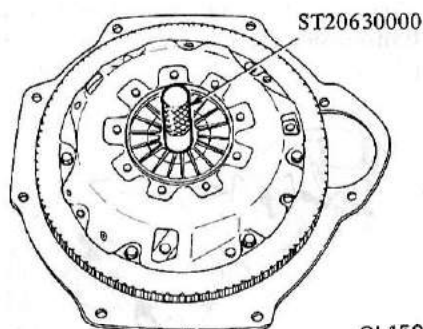

Fig. CL-2 Supporting clutch
2. Insert Clutch Aligning Bar ST20630000 all the way into clutch disc hub. It is important to support weight of clutch disc in the steps that follow. See Figure CL-2.